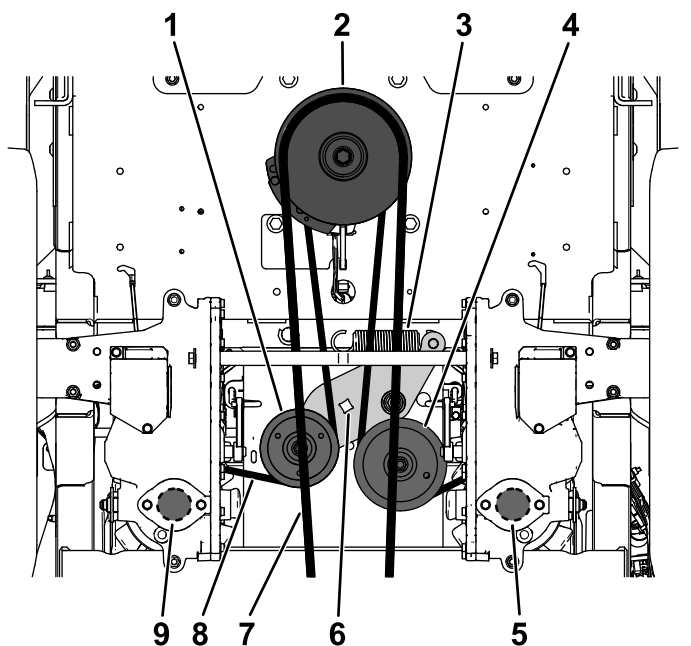

Figure 67
5. Use a 1/2-inch ratchet or breaker bar in one of the square holes in the idler arm to remove tension on the idler spring (Figure 67).
6. Remove the existing belt from the idler pulley, 2 hydraulic-pump-drive pulleys, and engine pulley (Figure 67).
7. Install the new belt around the idler pulley, engine pulley, and 2 hydraulic-pump pulleys (Figure 67).